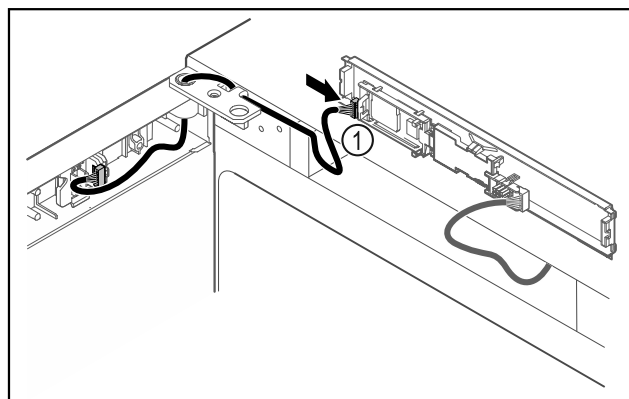

Fig. 48
- ▶ Piespraudiet spraudni Fig. 48 (1) pie shēmas plates.